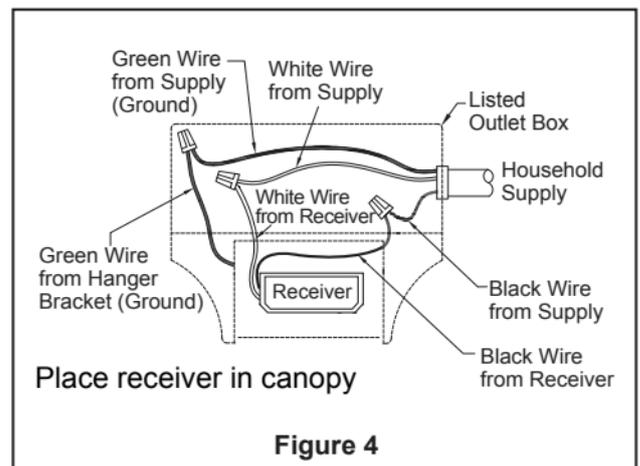

Figure 4
4. After connections have been made, the wires should be spread apart with the grounded conductor and the equipment-grounding conductor on one side of the outlet box and the ungrounded conductor on the other side of outlet box, then turn leads upward and carefully push leads into the outlet box, with the white and green leads to one side of the box and the black leads to the other side. (Figure 4)